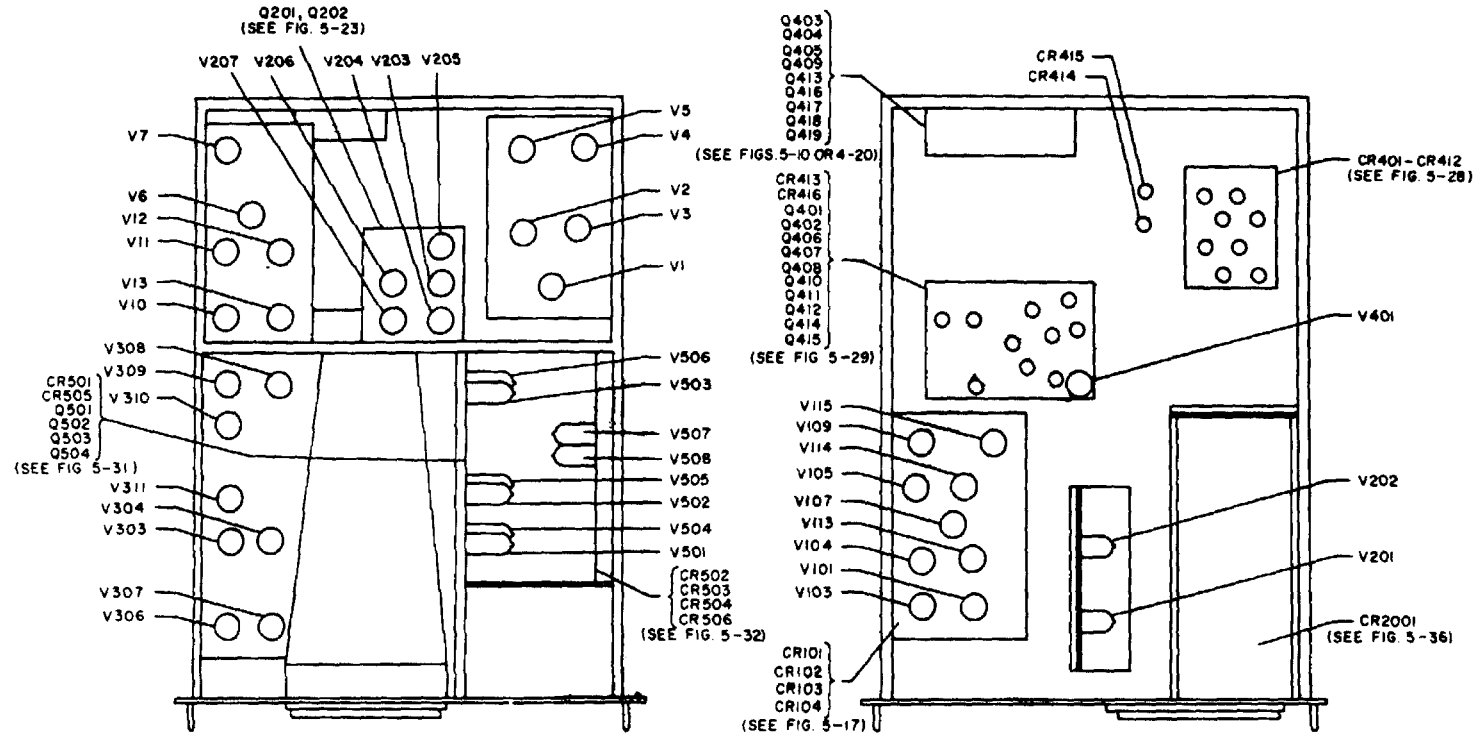

Figure 5-6. Top and Bottom Views, Location of Electron Tubes
a. TUBES. Electron tubes are best checked by replacement. Results obtained from an external tube tester can sometimes be misleading. Mark the tubes for identification as you remove them so you can return them to their original sockets if they are still good. Figure 5-6 shows the locations of the tubes and table 3-4 indicates the adjustments required following replacement of tubes, transistors, and diodes. Tube type 7308 may be replaced, in emergencies, by tube type 6922. The latter type, however, draws a different heater current and may unbalance the heater supplies. If such a substitution is made, check the  $\pm$  6.3 volt supplies to assure that they are within 0.2 volts of each other. Balance can be restored by tube selection. An unused replacement 7308 tube may exhibit a stabilizing action for about 24 hours of operation after it is first placed in service. Tubes which have been "aged" at normal operating conditions for this period of time can be used for replacement if it is necessary to avoid a change in tube characteristics during this short break-in period. The V508 position in the MX2930B/USM Dual Trace Preamplifier is sensitive in this respect. Aged and balanced tubes are recommended for replacement use in this position.
d. REMOVAL OF HIGH-VOLTAGE POWER SUPPLY TUBES. The four high-voltage rectifier tubes, the oscillator, and regulator tubes are located under a cover accessible through the left side gusset (see figures 5-6 and 5-12). To remove the cover, remove the four machine screws securing the cover to the high-voltage power supply. Disconnect oscilloscope from power source before working on any part of the high-voltage supply. Short the tube plate caps to ground before removing them from the tubes. To remove the four rectifier tubes remove the insulator plate that secures the tubes.
e. ACCESS TO SWEEP GENERATOR TUBES. The sweep generator tubes may be reached by removing the MX-2930B/USM Vertical Plug-In and the shield plate in tile floor on the empty plug-in well. Two screws hold the shield in place. Return the shield before replacing the plug-in unit. Refer to figure 5-6.